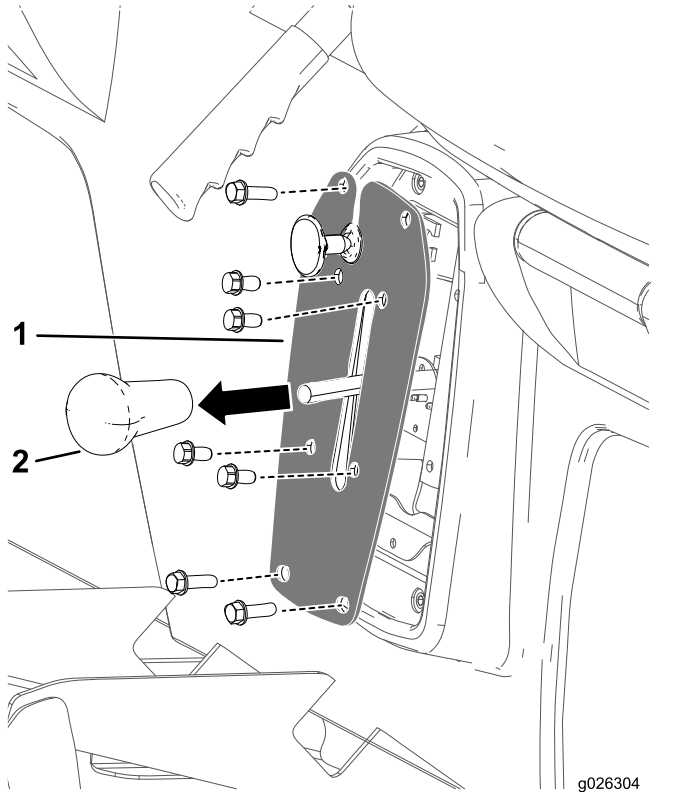

Figure 40
1. Remove the knob from the gear-shift lever (Figure 40).
2. Remove the 4 bolts that secure the shifter plate to the shifter bracket (Figure 40).
3. Remove the 4 bolts that secure the shifter plate to the seat base and remove the shifter plate (Figure 40).
4. Thread the knob from the gear-shift lever and tighten the knob by hand (Figure 40).